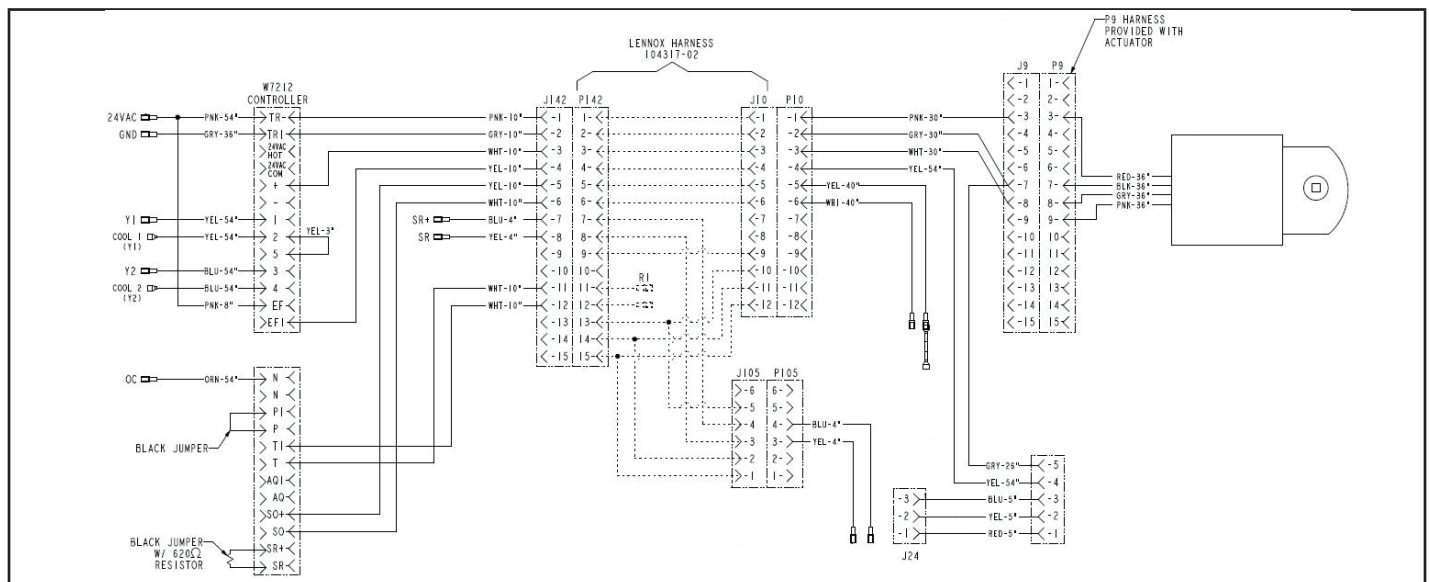

FIGURE 31
- 4 - At economizer/filter compartment, attach economizer plug(P10) to pre-wired harness jack (J10). See FIGURE 31.
- 5 - Connect any optional sensors as shown in FIGURE 31.
- 6 - If optional power exhaust is used, wire according to instructions provided with power exhaust. See FIGURE 31.